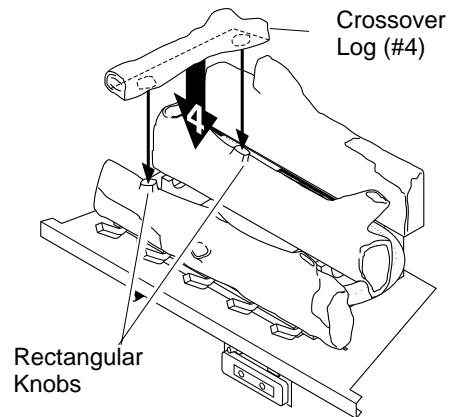

Figure 43 - Installing Crossover Log (#4)
4. Locate the notches in the bottom of the crossover log (#4). Place the crossover log on top of the middle log and front log. Make sure the notches of the crossover log line up with rectangular knobs on top of the middle and front logs (see Figure 43).